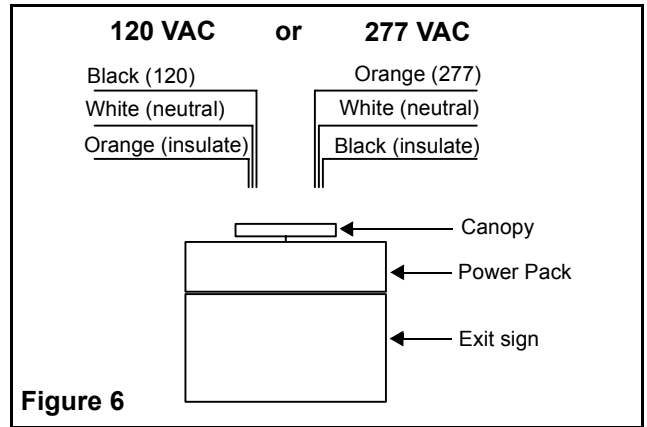

Figure 6
- d. Use the hook provided in kit to hold the fixture to electrical box while making proper connections (see fig. 6).
- e. Route AC wiring from power pack through canopy. Make the electrical connections as described at step 7 (see fig. 6).
7. Make the appropriate connections (see fig. 6). Our system accepts an input voltage of 120 VAC or 277 VAC.
Depress test switch (see fig. 6). AC lamps will not extinguish but DC lamps will illuminate. Release test switch and unit will return to normal standby operation.